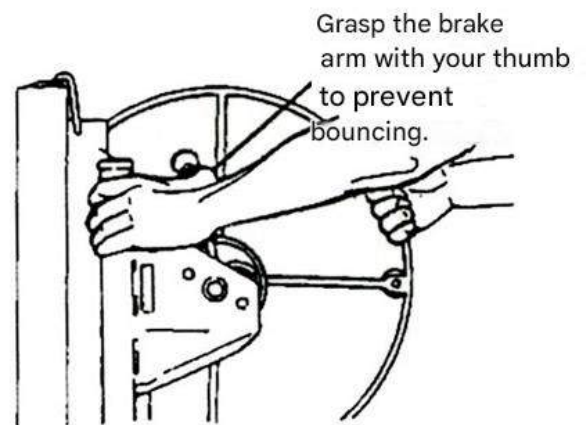

Figure 3
b. Lift the brake arm all the way up. Grip the winch, holding the brake lever firmly with your thumb (Figure 3).